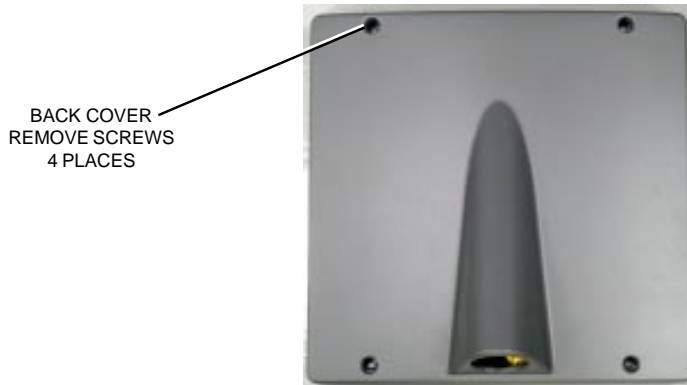

Figure 5
1. Remove the four screws which secure the back cover and remove the cover to gain access to the second lamp plug. *Refer to Figure 5.*